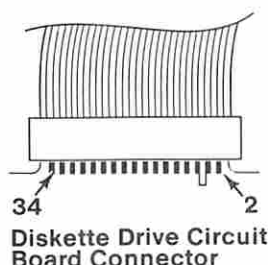

Figure 13. Voltage Check
- Power on the system and monitor the voltage at pin 12 on the circuit board of the failing diskette drive (Figure 13). The voltage should decrease from approximately 5 Vdc at the start of the POST to approximately 0 Vdc before the beep at the end of the POST.